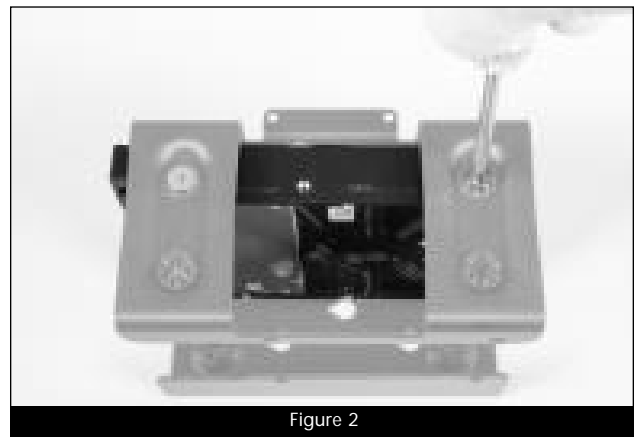

Figure 2
4. If you are installing only 2.5-inch SSDs, skip to step 9. Otherwise, set the primary bracket down with the open side facing up (**Figure 2**).
5. Remove a 3.5-inch drive from its packaging, handling the drive by its edges. Insert the drive into the primary bracket with the drive's top label facing the top of the bracket and its connectors on the left, and then align the holes in the bracket with the screw holes in the drive (**Figure 2**).
6. Using two of the previously removed 3.5-inch drive mounting screws, secure the drive to the primary bracket, turning them hand tight (**Figure 2**).